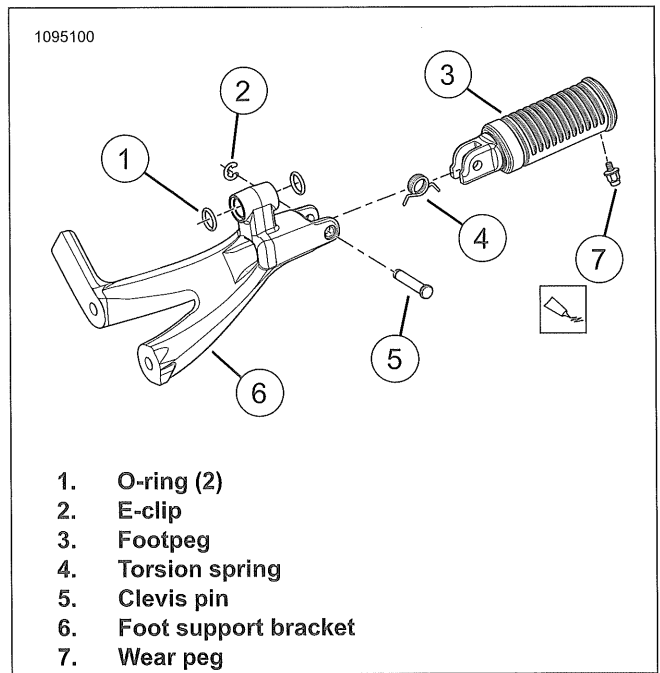

Figure 3-134. Left Side Footpeg (Typical)
1. See Figure 3-134. Remove wear peg (7), if equipped.
1. See Figure 3-134. Install footpeg (3).
- a. Insert short leg of torsion spring (4) into hole in footpeg.
- b. Insert long leg of torsion spring into hole in foot support (6).